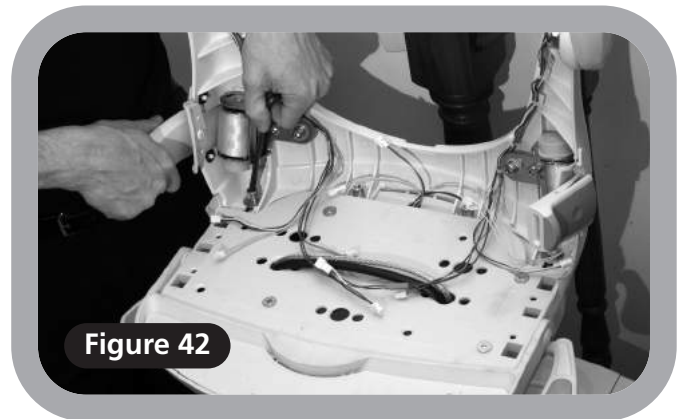

Figure 42
- 1 Place the seat back onto the seat base and using a ball ended 6mm Allen key secure it with the four bolts and washers provided (**Figure 42**).